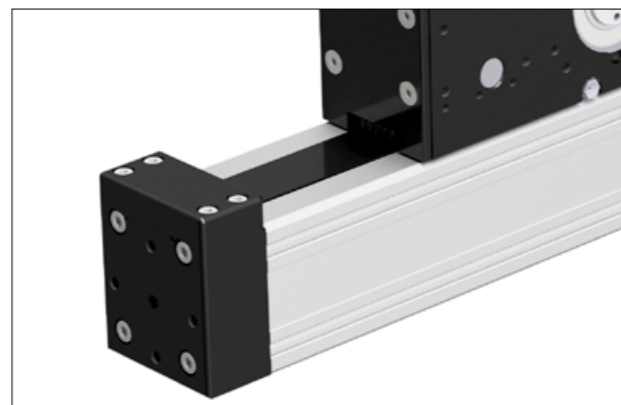

Figure 5.2 AXF with toothed belt / Ω - drive
- Compact linear axis for the use as lifting axis for low and medium loads (Figure 5.2)